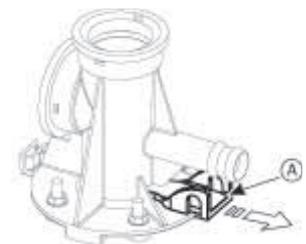

Fig. 7.a
- activate the mechanical device under the cylinder (see part. A Fig. 7.a).